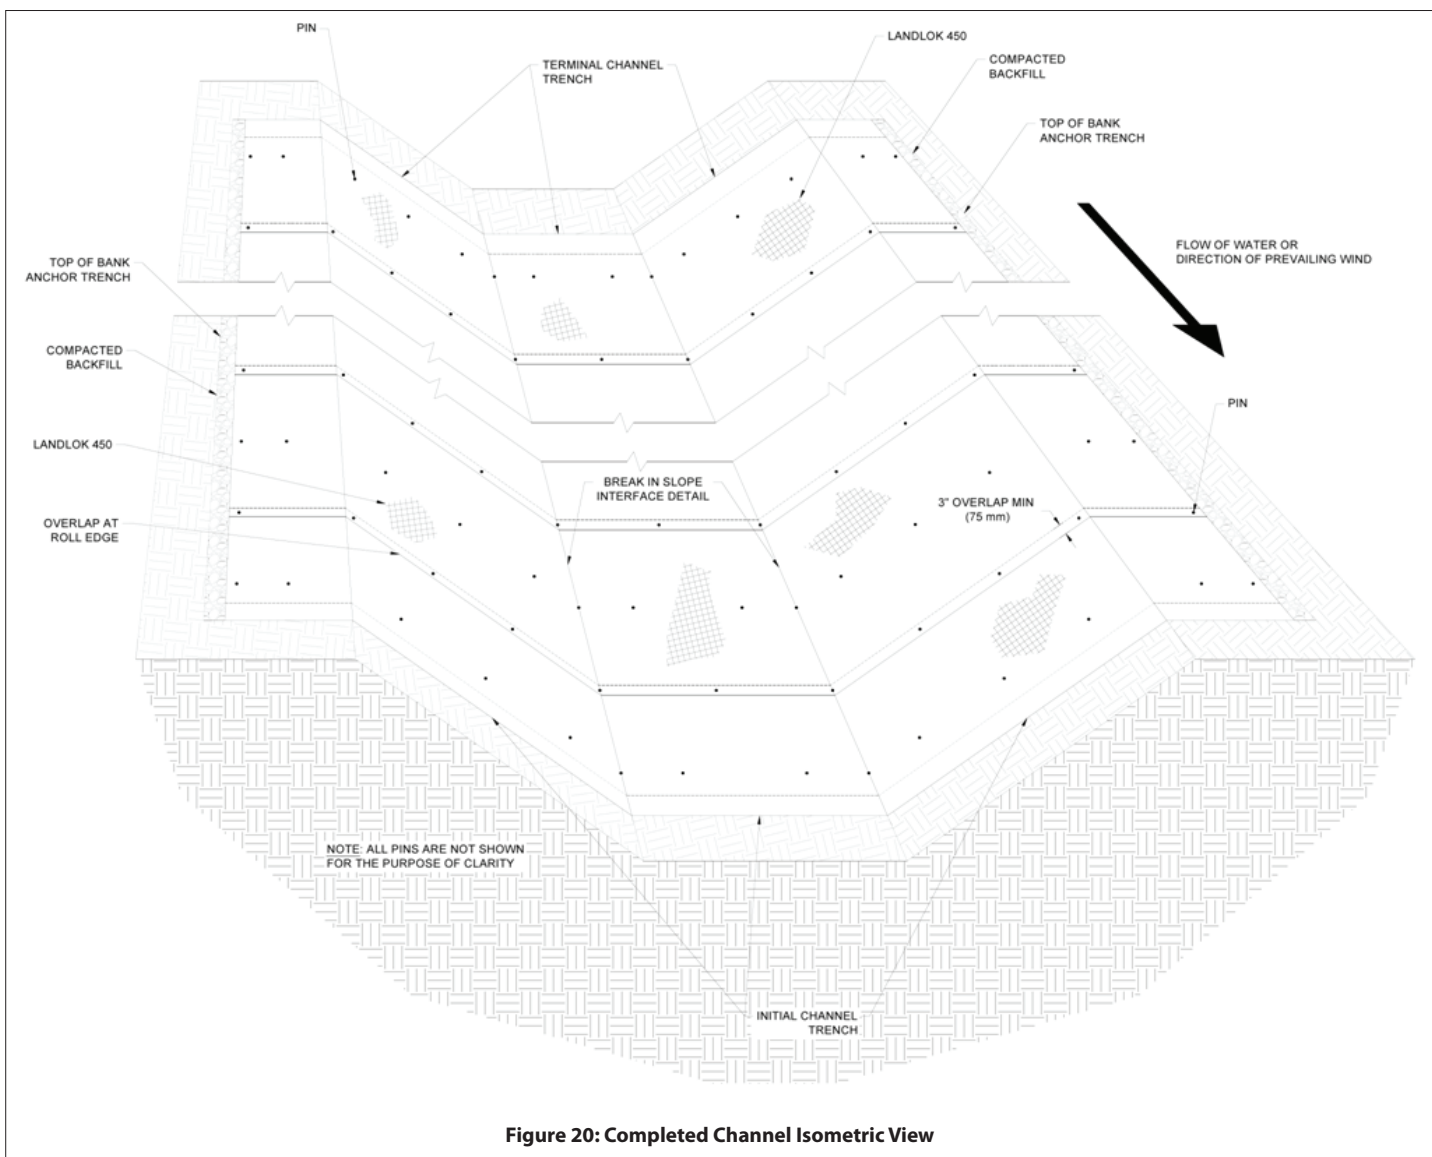

Figure 20: Completed Channel Isometric View
17. Fold the Landlok® 450 panel over the top of the compacted TC trench (Figure 20) ensuring a minimum 75 mm overlap and place each panel end into the respective COS trenches.
18. At a minimum, Landlok® 450 panels should be pinned entirely across the channel surface, pins should be installed in the trenches, and the trenches should be backfilled and compacted at the end of each day to minimize rework in the case of a major rain event. Specific project conditions may warrant further evaluation of installation order for ease. An example isometric view (Figure 20) of a channel armoured with Landlok® 450 can be seen below for overall reference. Consult Global Synthetics at www.globalsynthetics.com.au with any questions that you may have.